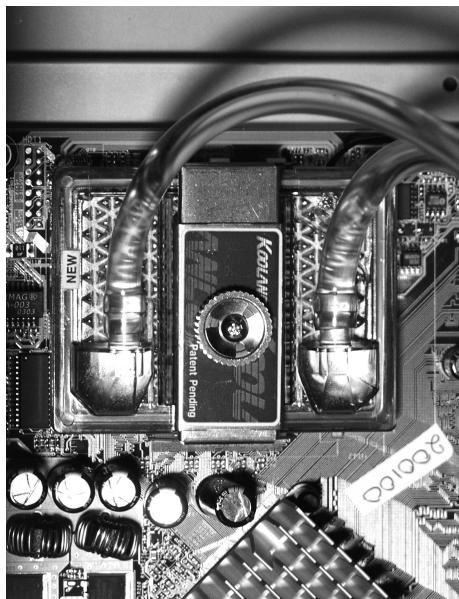

FIGURE 5.13 Cooling element mounted on CPU
5. Mount the cooling element to the CPU with the attached bracket and secure it in place with the tension screw (Figure 5.13). Be careful not to over-tighten the screw.